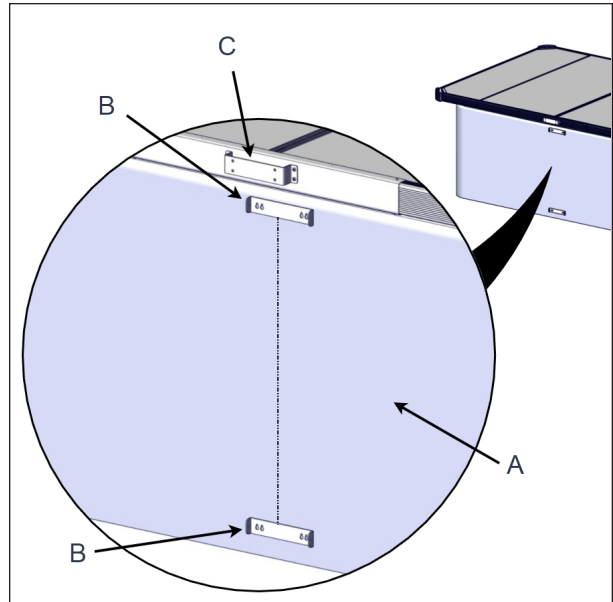

FIGURE 61: TUB MOUNT BRACKET INSTALLATION
7. Position the tub mount bracket with the previous marks, fasten it properly and securely to the spa frame (Figure 61). If the spa structure is over 50" (127 cm) high, install the extended tub mount bracket on the